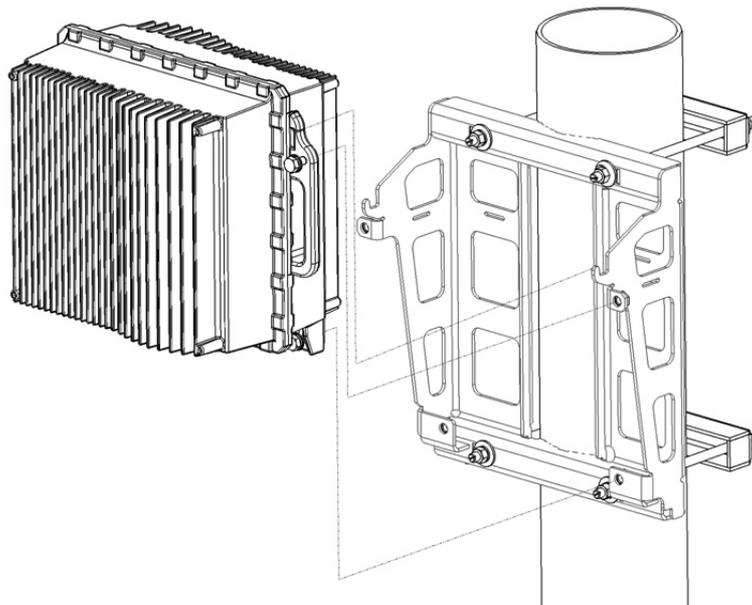
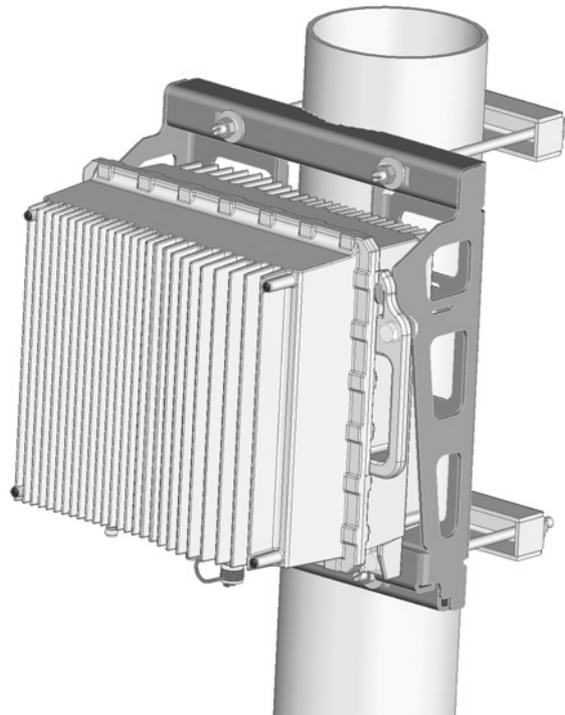

Figure 2-6: Mounting the 4x2 ODU
Figure 2-7: 4x2 ODU Mounted on Pole
- 6 Hang the ODU on the carriage and tighten the four M10x30 screws (Figure 2-6 and Figure 2-7).